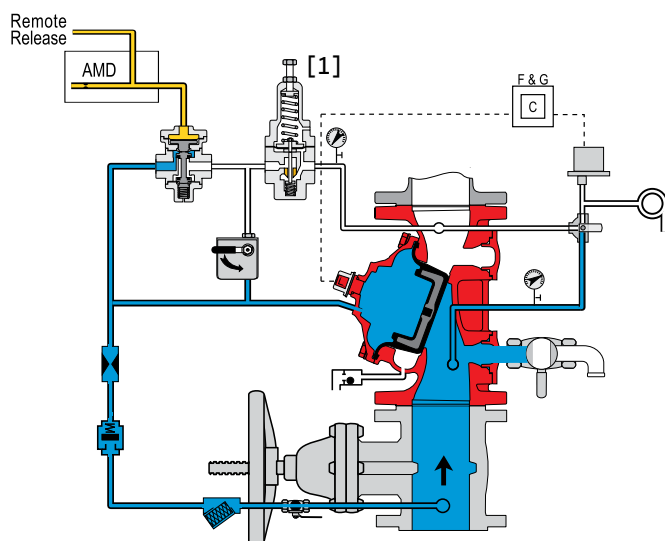

Fig 3a - Valve Closed (Normal Conditions)
The BERMAD 400Y Pressure Control Deluge models are for use with high pressure water supplies or for varied pressure control requirements. These models are fitted with a pressure reducing pilot (1) fig 3a, integrated into the trim. This enables the dual function of a deluge valve whilst simultaneously reducing a higher upstream pressure to a lower and stable downstream pressure. See below the operation drawing for the Pneumatic Pressure Control On-Off Deluge Valve model 400Y 4DC, figures 3a & 3b.